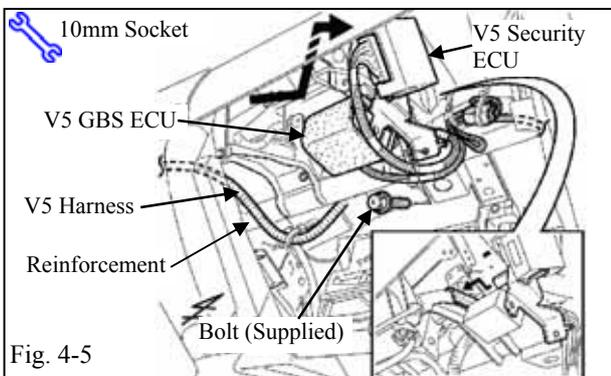

Fig. 4-5
- (g) Using the supplied bolt, secure the V5 security ECU and V5 GBS ECU to the reinforcement fixation. (Fig. 4-5)